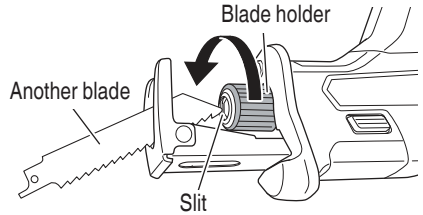

Fig. 13
- If the broken saw blade is hidden inside the small slit, hook the broken blade using a tip of another saw blade and take it out. (Fig. 13)